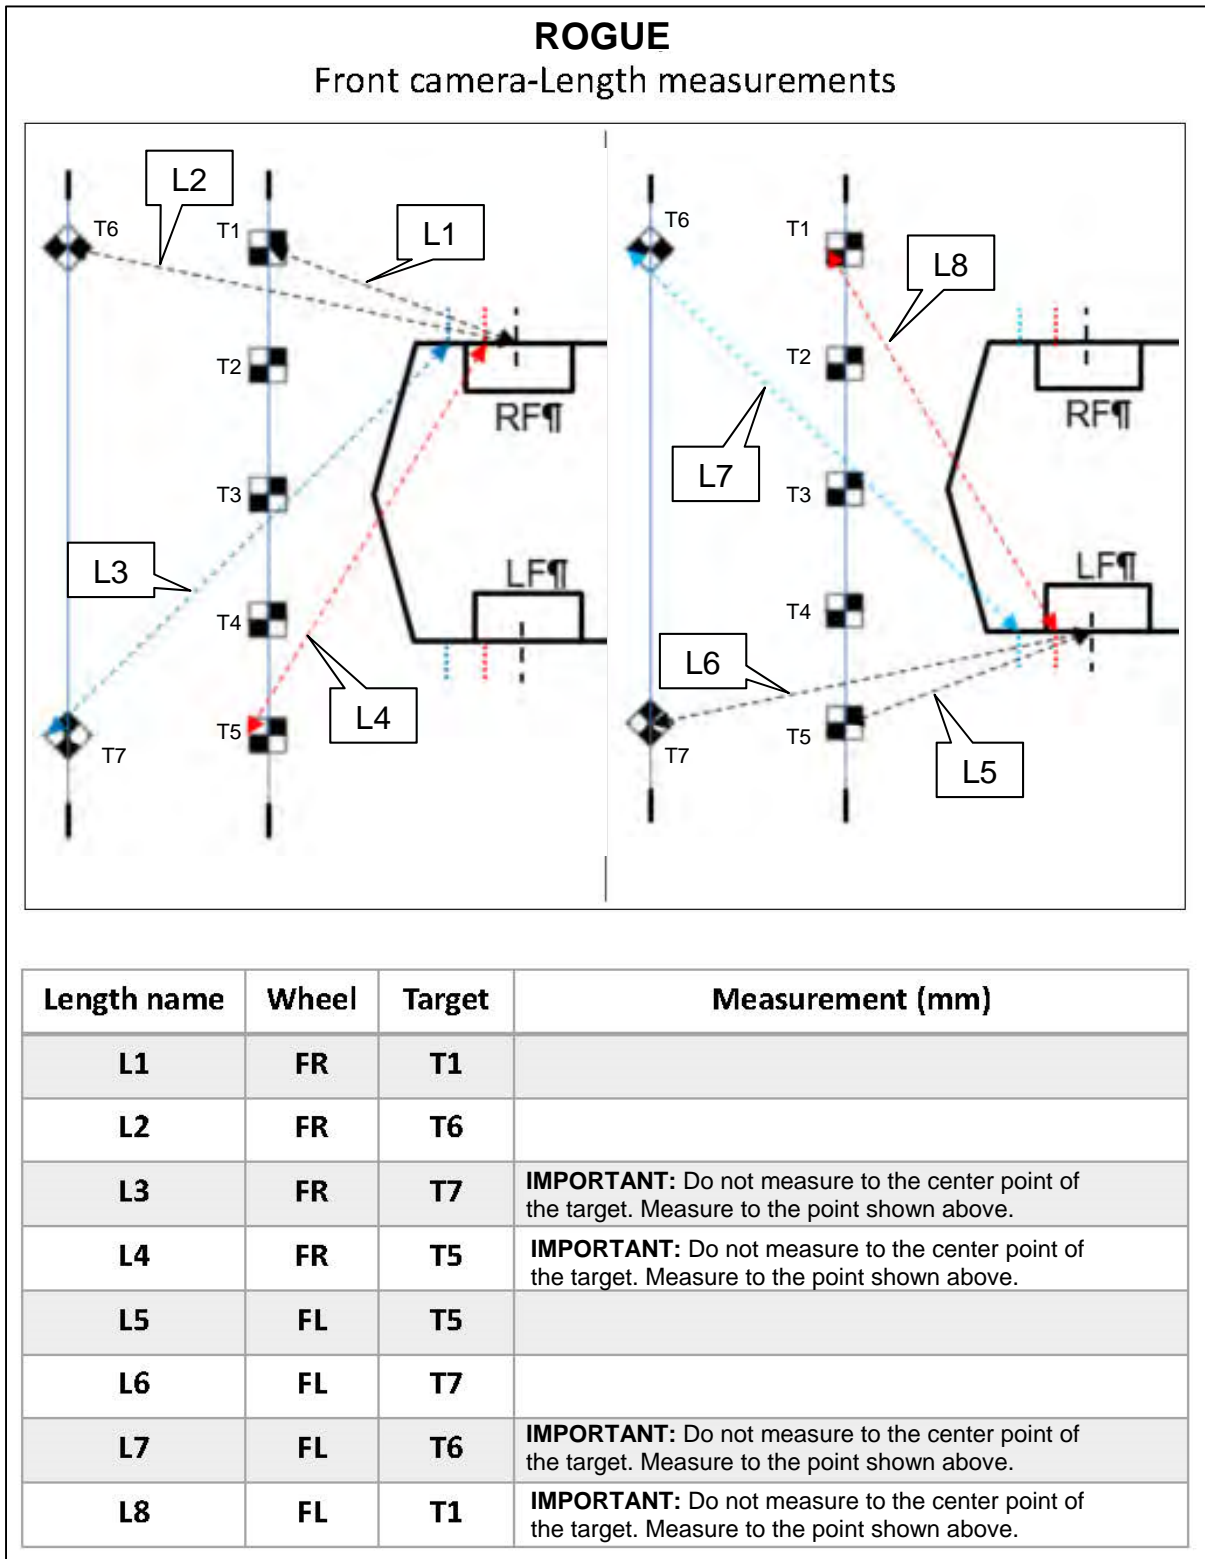
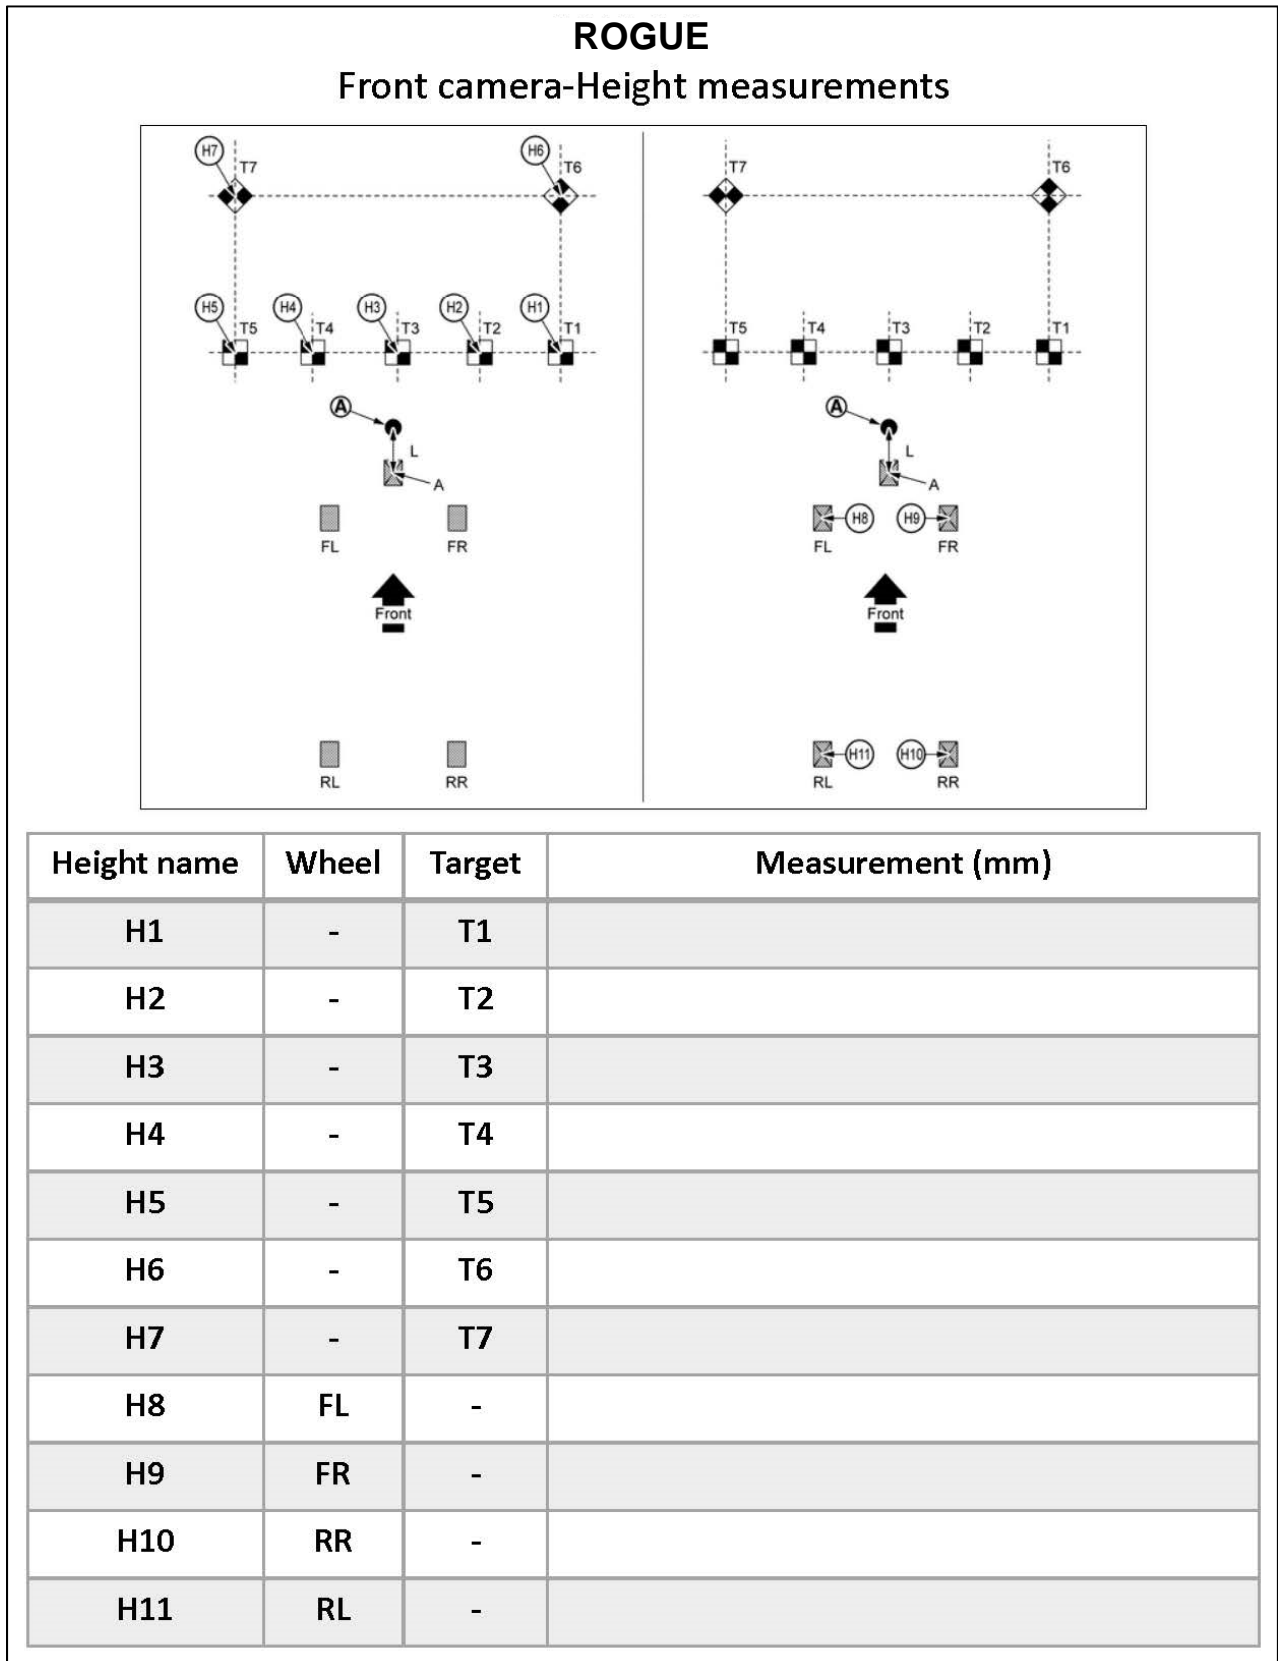

Figure 115
Figure 116
**IMPORTANT:** All measurements must be in millimeters (mm). Refer to the illustrations in Figure 115 (below) and Figure 116 on page 58 to ensure the correct measurement is documented in the correct order and for each calibration target.
76. Refer to steps 72 - 74 on page 55 to set up the laser level to measure the height of the front camera, and then document the measurements in Figure 116.